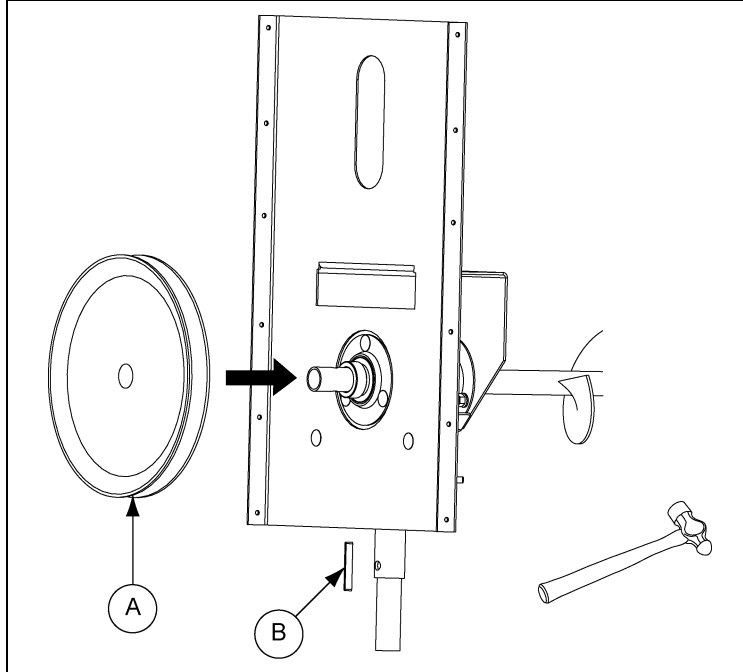

Figure 4E
Step 5: Fit auger pulley (8" augers). (See Figure 4E.)